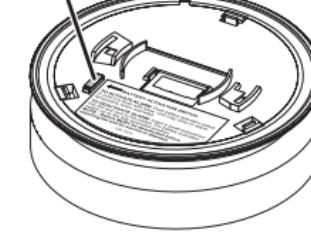

FIGURE 6B
4. Activate battery before mounting. Turn the unit over and push in the battery activation switch until it is flush with the base. See Figure 6B. **UNIT MAY CHIRP OR ALARM TEMPORARILY WHEN ACTIVATED.**